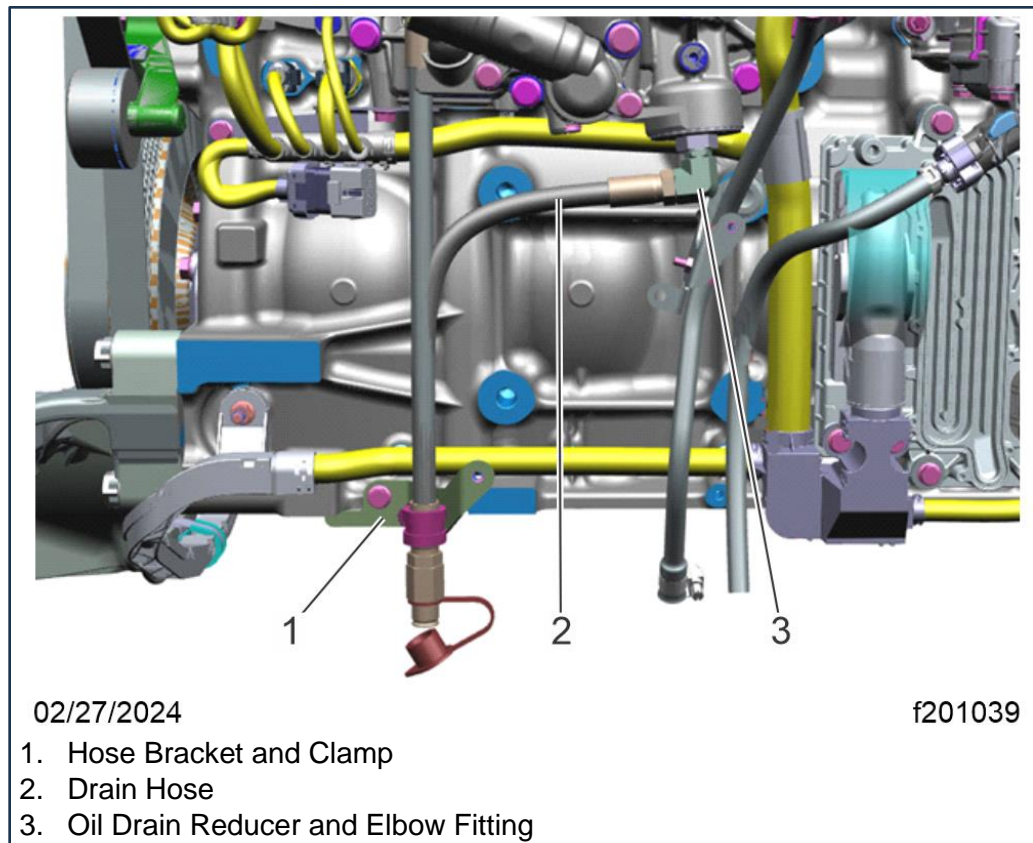

Fig. 2 Installation of the ESOC Oil Drain Reducer and Hose
8. Tighten the elbow fitting locknut 29 lb-ft (40 N·m). See Fig. 2.